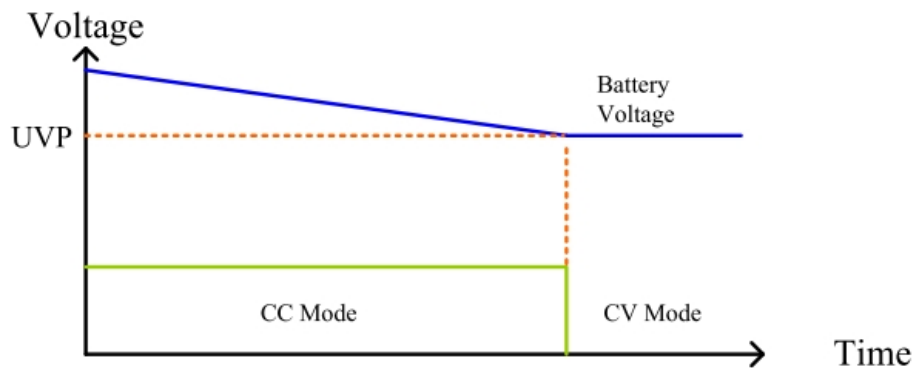

Fig 5-14 TYPE 2 Battery Discharge Figure
When testing loads on of Constant current (CC) mode, battery voltage is less than UVP Setting values, Constant current (CC) mode auto change to Constant voltage (CV) mode as Fig 5-14 shows.